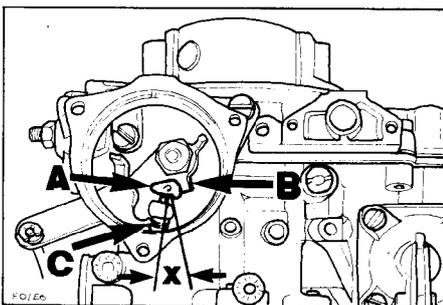

Fig. 5 Choke phasing adjustment
- d) With choke plates held in pull down position fast idle screw (C, Fig. 5) should have a small operating clearance 'X' from high cam, stop. If necessary adjust by bending tab (B) on lever.